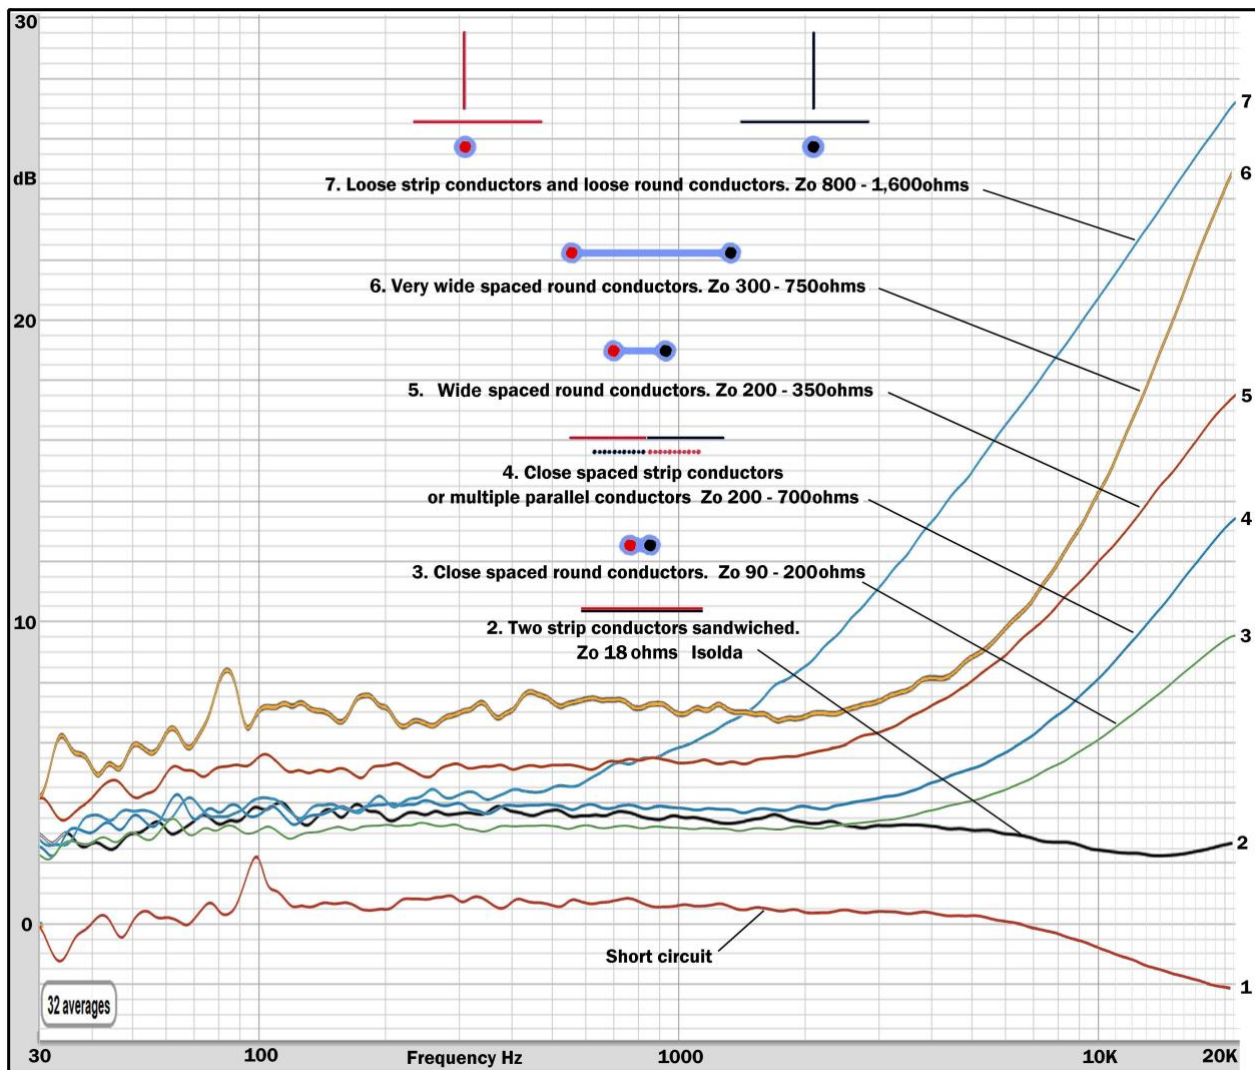
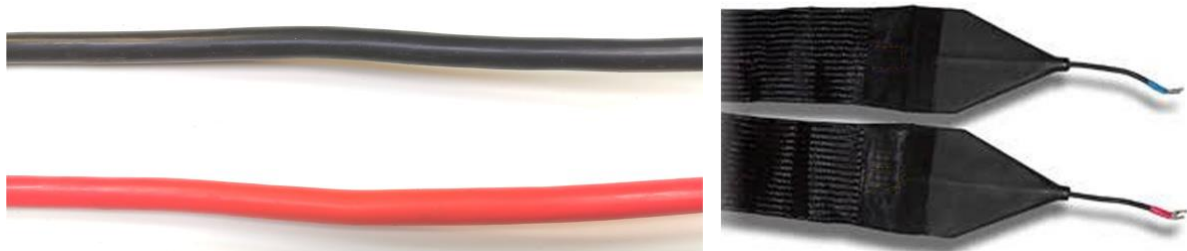
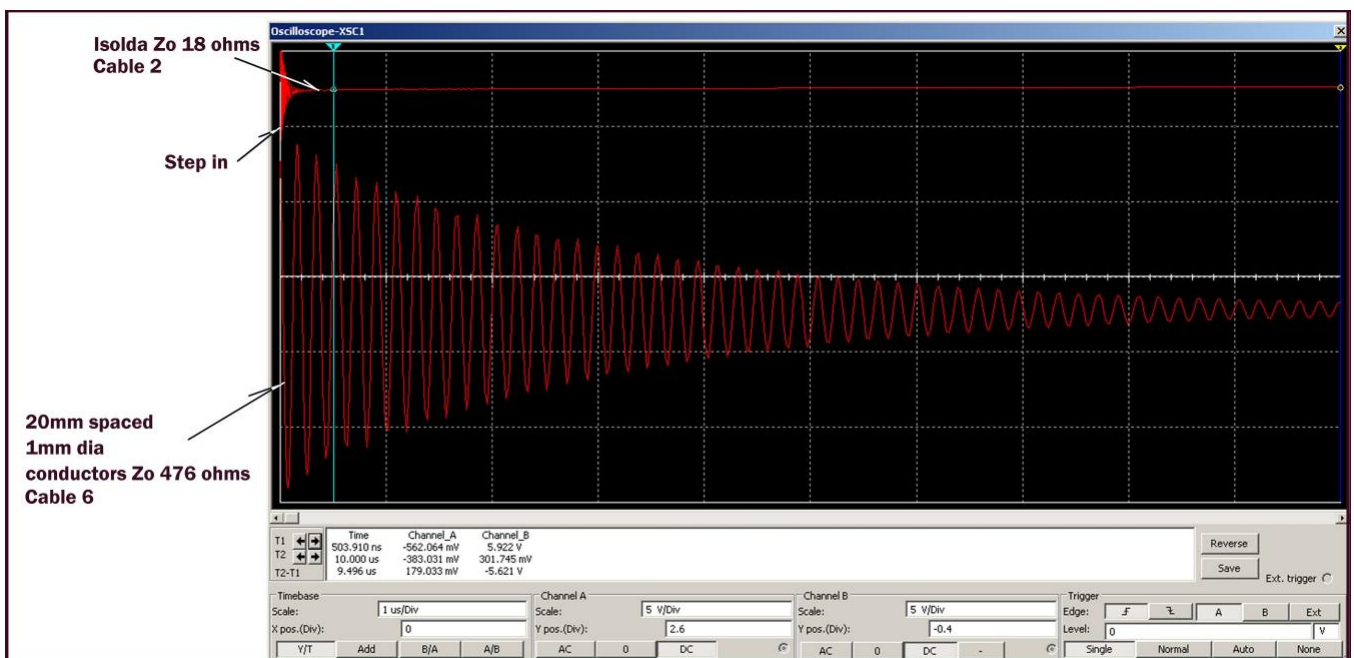

Fig 3. Frequency response of the test cables.
Fig 9. Two separate round or flat conductors.
Fig 12. Simulation, step into load matched and load mismatched.
In the first series of tests the signal voltage between the amplifier ground terminal Ga (black) and the speaker ground terminal Gs (black) was fed to a computer spectrum analyser and to a speaker via a suitable amplifier. This signal was chosen as it shows what is *wrong* with the cable; it is a very low resistance source and the ground reference is ideal. The results, Fig 3, show the frequency responses of a series of cables from 30 Hz to 20 kHz, together with their characteristic impedances  $Z_0$ .
Each trace shows the difference in the voltage between the amplifier and the speaker of each cable. The frequency response should be as close as possible to the short circuit, trace 1 in Fig 3. The basically flat, level response at low frequencies between 30 Hz and 400 Hz is due to the resistance of the cable. The increasing rise in response above 400 Hz is due to multiple reflections caused by the mismatch between the cable characteristic impedance,  $Z_o$  and the impedance of the load. Note that the load impedance varies between 4 and 25ohms, which is an approximate match with the 18ohm cable.
- Cable 2 comprises two flat strip conductors separated by very thin insulation and has  $Z_o$  between 8 and 20ohms, Fig 4. The response is shown in trace 2, Fig 3.
- Figure-of-eight, or zip cables, have  $Z_o$  between 90ohms and 200ohms, Fig 5, with response as in trace 3 in Fig 3.
- Cables with two flat strips side-by-side, or two arrays of parallel conductors side-by-side, have  $Z_o$  between 200ohms and 700ohms, giving the response shown in trace 4, Fig 3.
- Cables with circular cross-section conductors, separated by between 10 mm and 15 mm, Fig 7, have  $Z_o$  between 150 and 350ohms with response shown in trace 5, Fig 3.
- Cables with round conductors very widely spaced at between 20 mm and 50 mm, have  $Z_o$  between 300ohms and 500ohms, Fig 8, giving a response shown in trace 6, Fig 3.
- Cables with two conductors, either round or strip, arranged completely separately from each other have  $Z_o$  between 800ohms and 1,300ohms, Fig 9, with response as in trace 7, Fig 3.
The second cable comprised two identical Isolda cable strips as above, but in this instance, they were separated by about 300 mm to 500 mm, in two entirely separate bundles, Fig 10. The response of this arrangement, which has very low capacitance and very high inductance (0.000028uF, 49.0uH), is shown in trace 7 in Fig 3, where,  $Z_o$  is 1,300ohms.
The different responses of these two cables are shown in traces 2 and 7 in Fig 3. It is important to note that the ONLY difference between two cables is the *geometry* of the two conductors comprising the cables. To listen to the difference, click here: <https://www.youtube.com/watch?v=v11hmOE1Vcc>
In time order, the white noise samples are: short circuit, resistor equal to one conductor, Isolda, trace 2, Fig 3 and separated strips trace 7. Then music with the same sequence.
If there is a close match between the impedance of the cable and the speaker, there will be very few or no reflections. If there is a mismatch, there will be multiple reflections on *every* musical transient. Fig 12 shows a simulation of cables 2 and 6 in Fig 3 for the simplest transient, a step.
For cable 6, Fig 3, with  $Z_o$  476ohms, driving the dummy speaker load with a step input from a square wave (the simplest transient) gives rise to severe ringing that has many oscillations. This is due to the transient reaching the mis-matched speaker load where only a small fraction of the signal is absorbed by the load. The remainder of the signal is reflected back to the source (the amplifier) where it is reflected back to the load. Again, only a small fraction of the now-diminished signal is absorbed by the speaker, with the remainder reflecting back to the source and so on. Over time, all the reflections will eventually be absorbed in the load.
With a matched cable and load, the signal is completely absorbed by the load with no reflections. With a mis-matched load, there are continuous, multiple reflections triggered by every change in the music, and it takes time for each transient to be completely absorbed by the load. It is the delayed nature of the absorption of the multiple reflections that gives rise to the high frequency roll-off, clearly shown in Fig 3.
Ironically, the mismatched cables do *not* sound dull, as one would expect because of the roll-off, but they sound bright. This is due to the time-smear caused by the delayed energy release from the multiple reflections. Note that *every* transient should be one single event, not thousands and thousands of events as it is with every music transient when using mis-matched cables. Note that the effect of the reflections may be measured down to 400 Hz with a high-impedance cable as is clearly shown in Fig 3. With impedance-matched cables this does not occur; one transient is transmitted as just one transient.